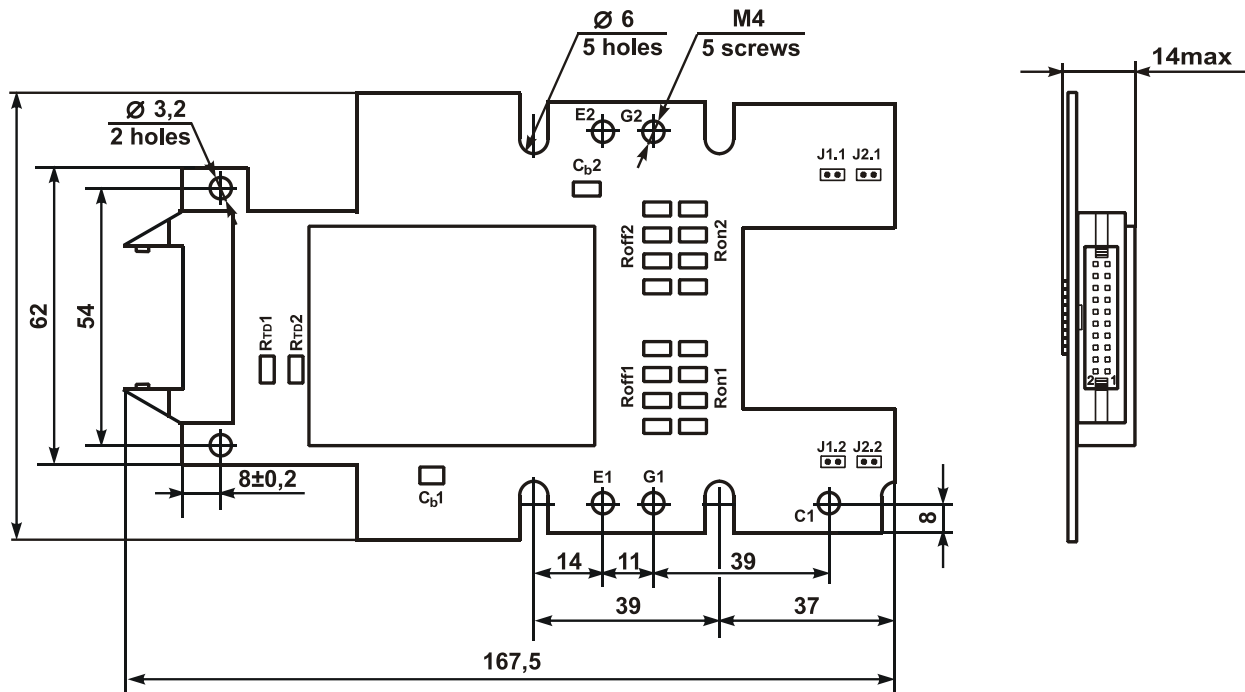
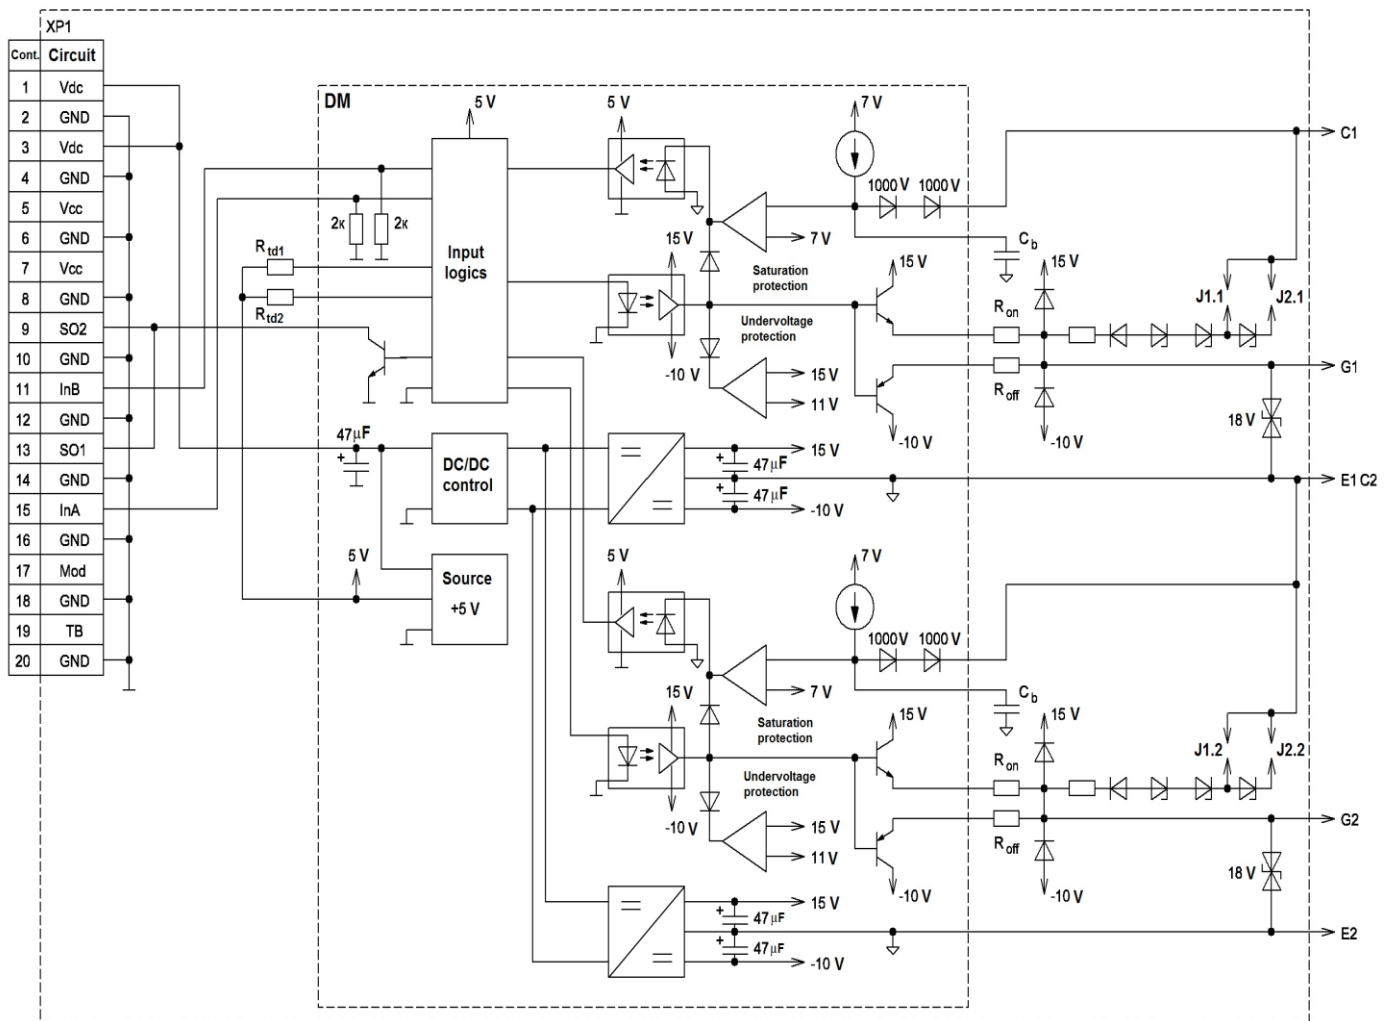

Figure 1 – Overall drawing
Figure 2– Functional driver circuit and turn-on circuit
3.2 Overall drawing is shown at Figure 1, functional driver scheme is represented at Figure 2.